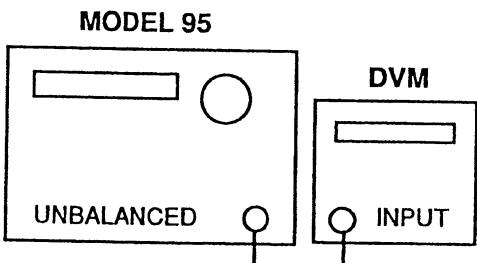

Figure 4-8. Triangle Null Setup
1. The Model 95 displays TRI NULL R25 2. Connect test equipment as shown in figure 4-8. Set the DVM to measure Vdc.
1. The Model 95 displays TRI OFFSET R146. Leave the test equipment connected as shown in figure 4-8.
1. The Model 95 displays SINE NULL R64. Leave the test equipment connected as shown in figure 4-8.
1. The Model 95 displays ARB NULL NF XX where XX represent a calibration value. Leave the test equipment connected as shown in figure 4-8.
1. The Model 95 displays ARB NULL 50K XX. Leave the test equipment connected as shown in figure 4-8.
1. The Model 95 displays ARB NULL 5M XX where XX represents a calibration value. Leave the test equipment connected as shown in figure 4-8.
1. The Model 95 displays SQUARE 0 R158. Leave the test equipment connected as shown in figure 4-8.